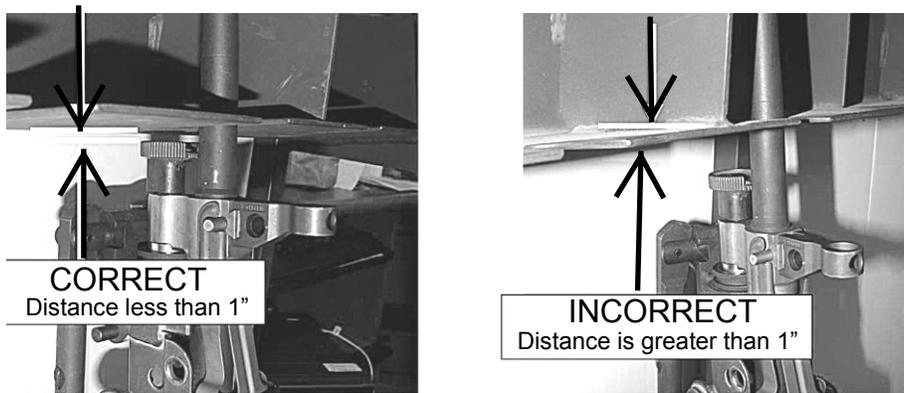

Figure 8. Correct Distance in Arms Rack.
6. Ensure that there is less than 1 inch (Figure 8) between the top of the monoblock and the bottom of the rack.